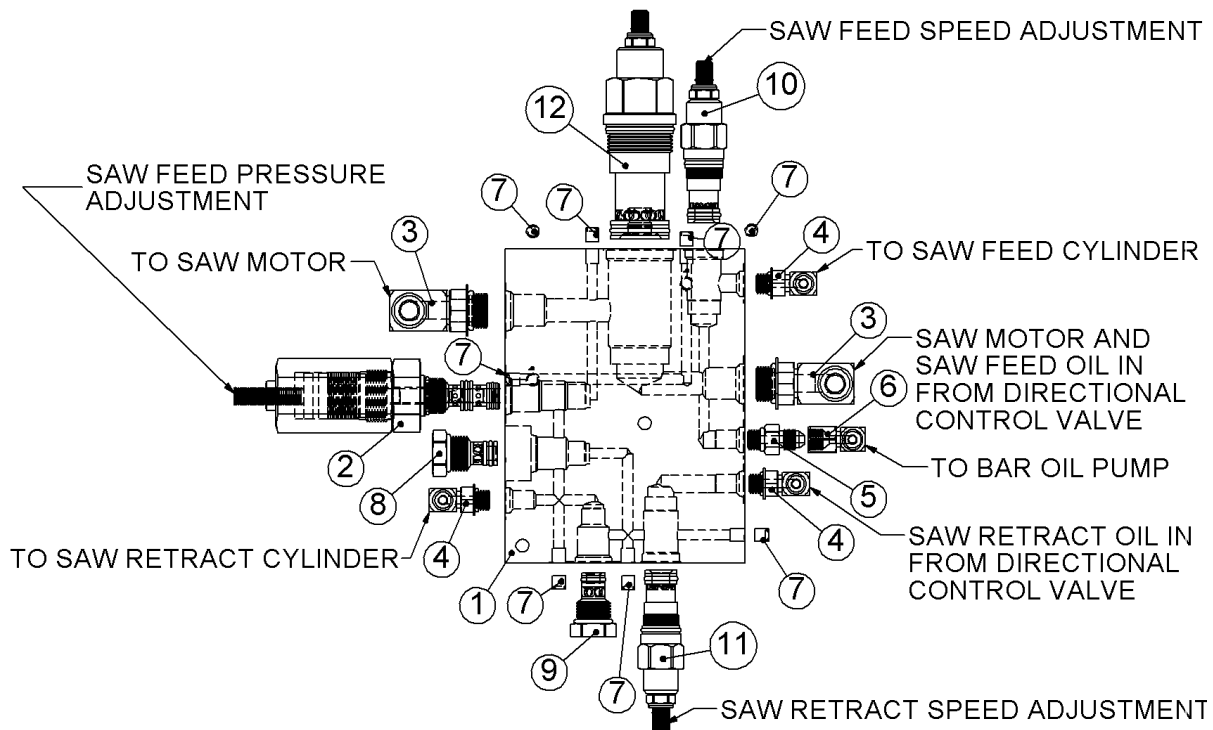
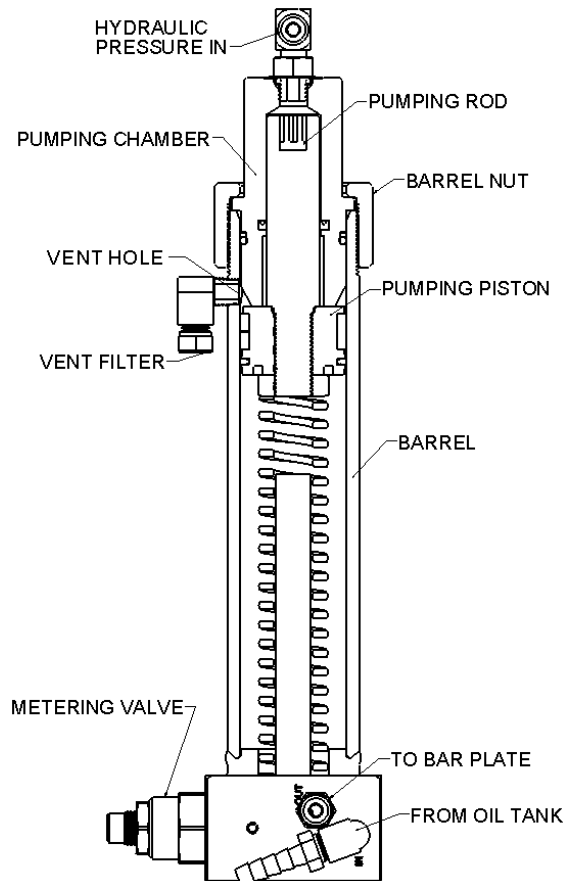

Fig. 8
Fig. 9
Connect and Cut saw systems have a control manifold with cartridge valves to limit flow to the saw motor and feed cylinder, and a feed modulating valve to adjust the feed speed based on the saw motor pressure. We have tested the operation of your system to set the valves before shipping so your system should cut any diameter, species, or hardness of wood without stalling the chain in the cut. The feed modulating valve will make the bar pulsate in the cut on larger or harder wood as it is trying to cut as fast as possible. It may be possible to fine tune the cutting for your application by adjusting the saw feed speed adjustment valve (Fig. 8, item 11). For larger or harder wood loosen the jam nut with a 9/16" wrench and screw the adjustment screw out with a 5/32" hex key wrench (Allen wrench), this will slow the bar movement down, lock the jam nut down when done adjusting. For smaller softer wood you may want to speed up the bar movement by screwing the adjustment screw in. Having the bar move too fast may cause the chain to stick when starting into the cut if the chain hits a knot. It is possible to tune the feed modulating valve (Fig. 8, item 2) by loosening the jam nut with a 9/16" wrench and adjusting the screw with a 3/16" hex key. A smoother cut may be possible by screwing the adjustment screw out, but this may increase the cutting time in larger or harder wood. If the wood is dry and hard screwing the feed modulating adjustment in may decrease cutting time. Screwing the feed modulating adjustment in too far will cause the chain to stall. Be sure to lock the jam nut after adjusting a valve.
The DH0144 bar oil pump (Fig. 9) is a single acting pump that can pump up to 32 cc or 1.08 oz. of bar oil per cycle, enough for about 30 seconds of cutting. There is a hose connected to the feed and motor control valve manifold (Fig. 8, item 6) that connects to the fitting (Fig. 9, hydraulic pressure in) on the bar oil pump. When a cut is started flow and pressure from the manifold pushes on the pumping rod and piston to force a metered amount of oil to the bar. Very little rotational adjustment is needed for the metering valve in Figure 9. Turning it clockwise reduces the speed oil is pumped and turning it counterclockwise increases the speed the oil comes out. If you run the tank out of oil you may need to prime the pump. To prime the pump remove the barrel nut and pull the pumping chamber, pumping piston, and pumping rod. Fill the barrel with bar oil up to the vent hole. Reinstall the pumping rod assembly into the pumping chamber with care to not damage the rod seal. Reinstall the pumping rod assembly into the pumping chamber with care to not damage the rod seal. Reinstall the pumping chamber and pumping rod assembly into the barrel, with care to not damage the piston or the O-ring, and retighten the barrel nut. To reduce the chance of seal damage make sure the seals are oiled and wiggle in a circular motion as you push the parts together.